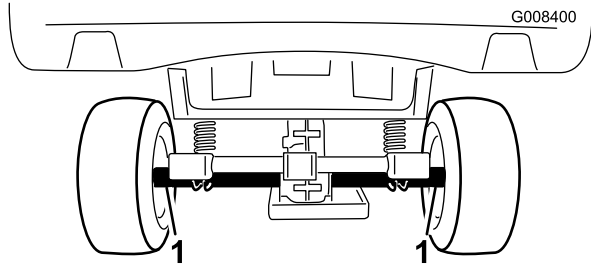
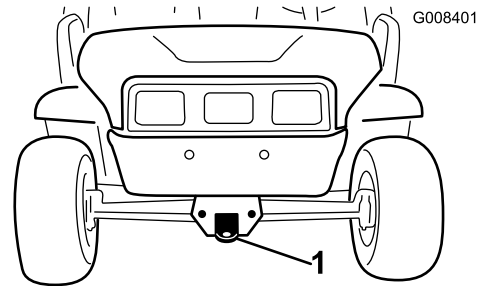

Figure 18
Figure 19
For moving the vehicle long distances, a trailer should be used. Make sure that the vehicle is secured to the trailer. Refer to Figure 18 and Figure 19 for the location of the tie-down points.
2. Affix a tow line to the tongue on the front of the frame (Figure 19).